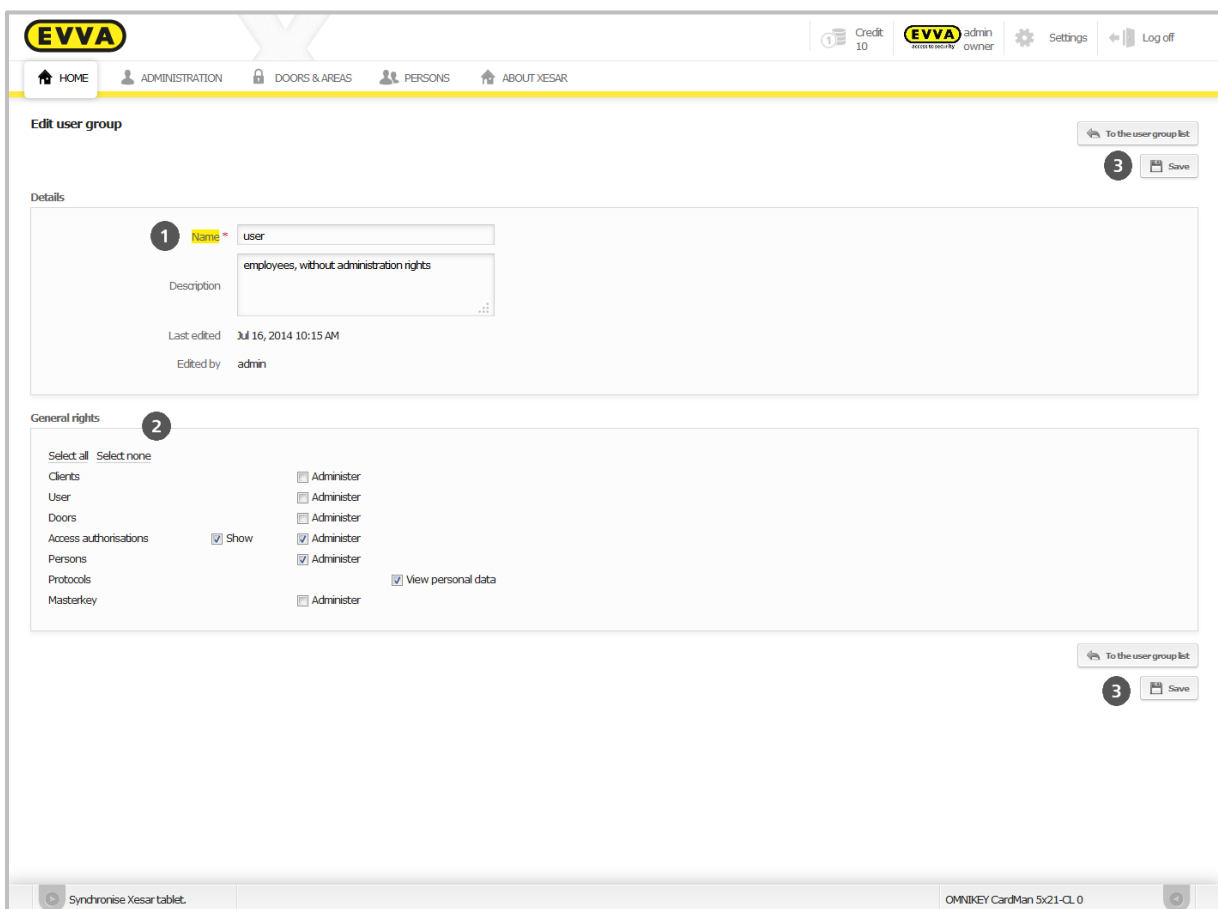

Figure 64: Editing usergroups
- Click the user group you would like to change in the user group list (Figure 64: Editing user).
- Check or change the details (name, description) ❶.
- Correct any activated, general rights ❷.
- **Save** changes ❸.